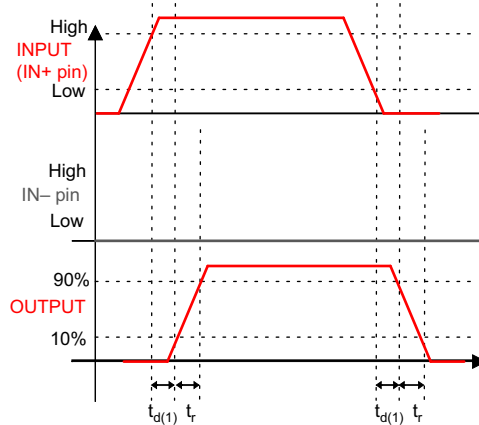
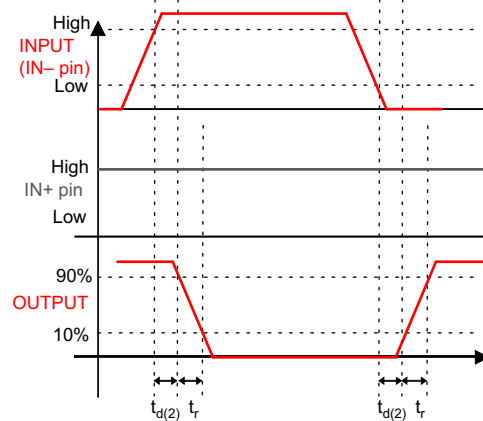

Figure 5-1. Non-Inverting Configuration (PWM Input to IN+ pin (IN– Pin Tied to GND), Output Represents OUTH and OUTL Pins Tied Together in the UCC27511A)
Figure 5-2. Inverting Configuration (PWM Input to IN– Pin (IN+ Pin Tied to V_{DD}), Output Represents OUTH and OUTL Pins Tied Together in the UCC27511A)
$V_{DD} = 12\text{ V}$, $T_A = T_J = -40^\circ\text{C}$ to 140°C , $1\text{-}\mu\text{F}$ capacitor from V_{DD} to GND. Currents are positive into, negative out of the specified terminal. See Figure 5-1, Figure 5-2, Figure 5-3, and Figure 5-4
(1) See timing diagrams in Figure 5-1, Figure 5-2, Figure 5-3, and Figure 5-4.